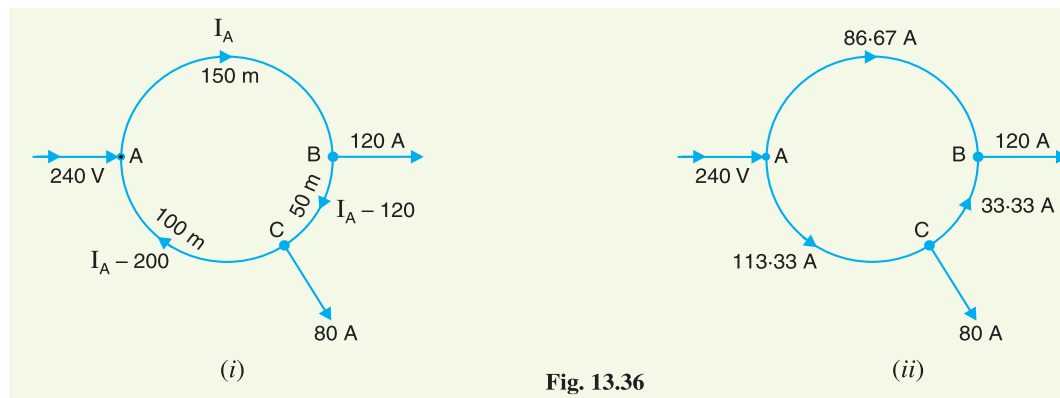

Fig. 13.36
The most simple case of a ring distributor is the one having only one feeding point as shown in Fig. 13.36(ii). Here A is the feeding point and tapings are taken from points B and C. For the purpose of calculations, it is equivalent to a straight distributor fed at both ends with equal voltages.
- (i) Let us suppose that a current I_A flows in section AB of the distributor. Then currents in sections BC and CA will be $(I_A - 120)$ and $(I_A - 200)$ respectively as shown in Fig. 13.36 (i).
The actual distribution of currents is as shown in Fig. 13.36 (ii) from where it is seen that B is the point of minimum potential.